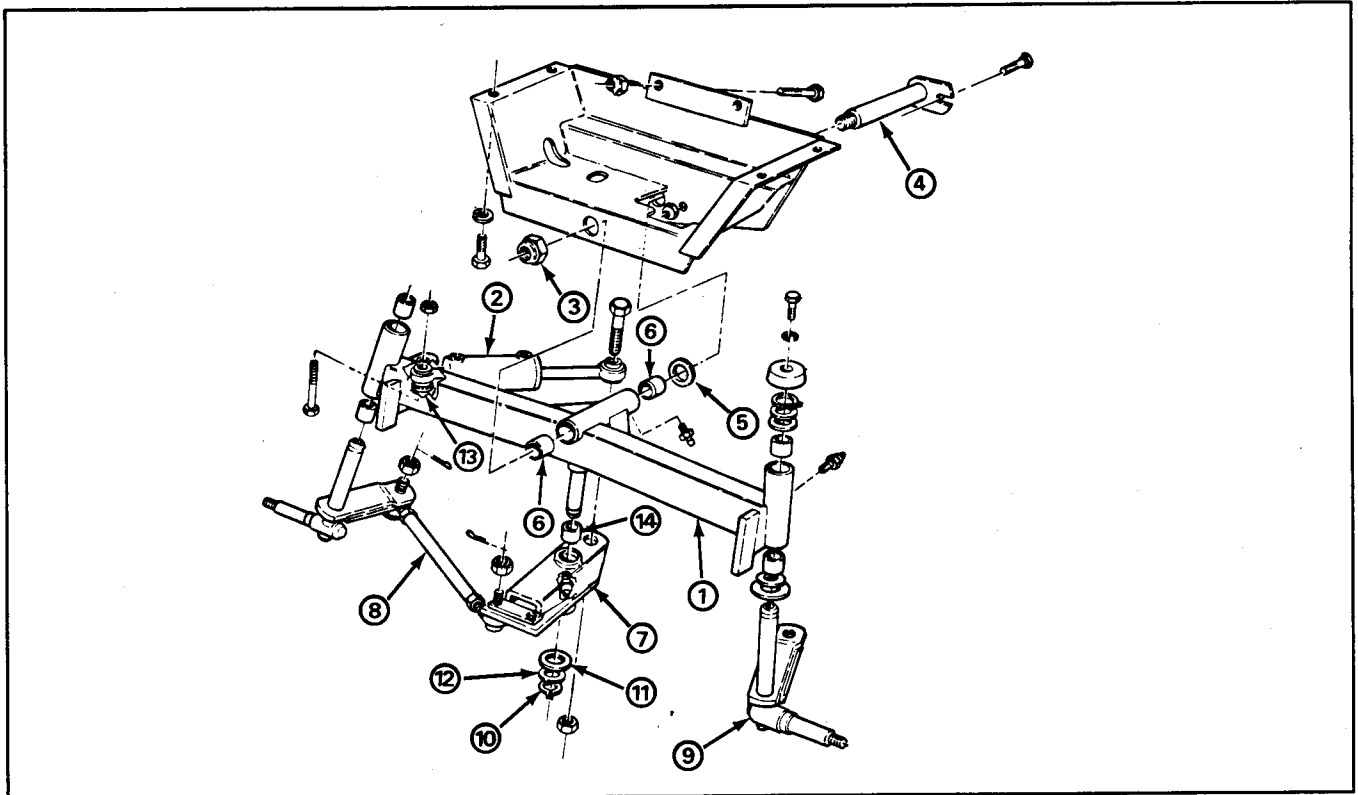

Figure 11
2. Remove the large lock nut from the end of the rear axle pin (Fig. 11).
1. Remove the lock nut and cap screw securing the steering cylinder rod end to the steering pivot (Fig. 11).